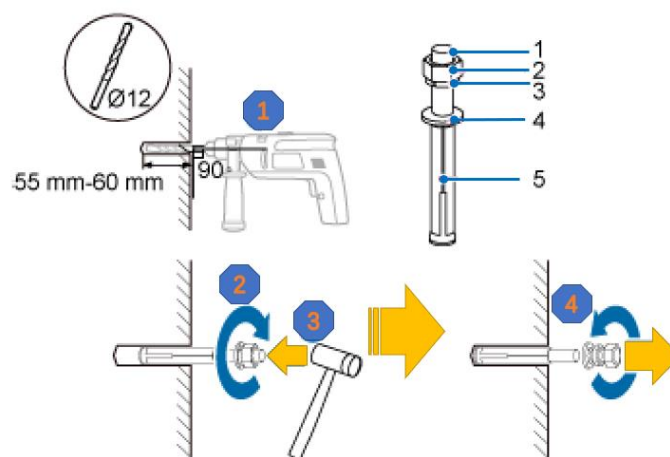

Figure 3-11 Drilling holes and inserting expansion anchor bolts
Step 3: Drill holes at the anchor points, and then insert expansion anchor bolts, as shown in **Figure 3-11**.